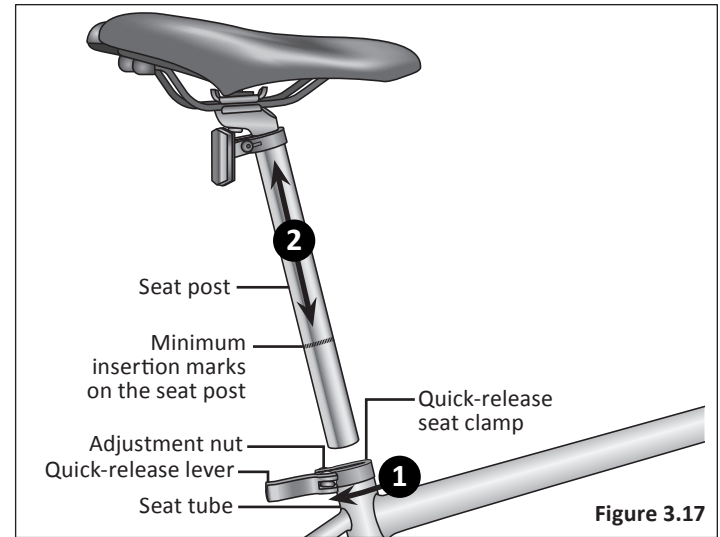

Figure 3.17
- 1 Unlock the quick-release lever and insert the seat post into the seat tube. **Figure 3.17**